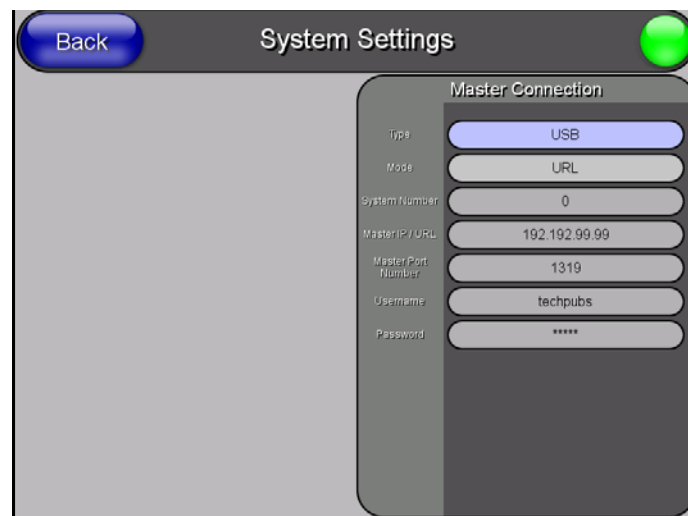

FIG. 37 System Settings page - USB Connection
3. In the Protected Settings page, select **System Settings** to open the System Settings page (FIG. 37).